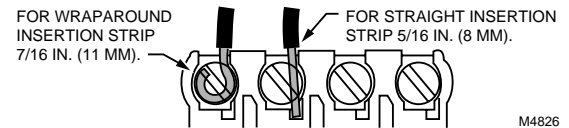

Fig. 10. Proper wiring technique.
1. Loosen the terminal screws on the subbase/wallplate and connect the system wires. See Fig. 10.